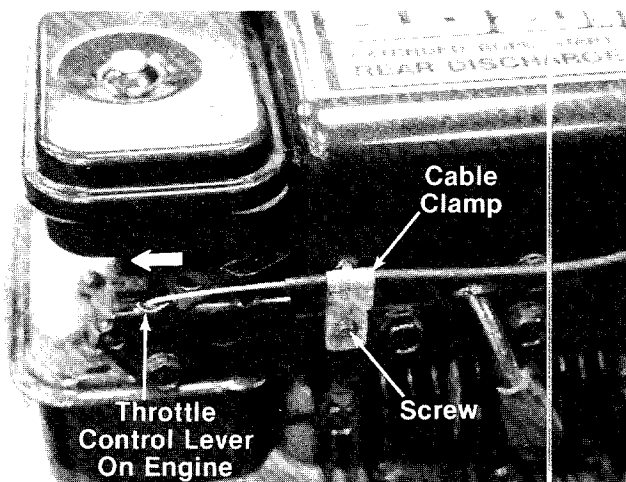

FIGURE 9.
12. Push the throttle control lever on the engine to the full open position (as far toward the outside of the unit as it will go) as shown in figure 9.
14. Remove the screw on the cable clamp shown in figure 9. Slip the control casing under the clamp. With the throttle lever on the engine still in the full open position, replace and tighten the screw to secure the throttle control cable.
1. Loosen, but do not remove, screw securing throttle control wire assembly at engine. See figure 9.